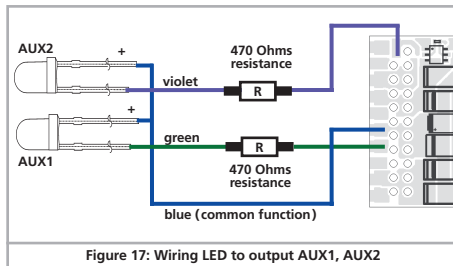

Figure 17: Wiring LED to output AUX1, AUX2
- a) The lamps / function outputs are insulated from the common pole (ground) (i.e.: the locomotive chassis); therefore they are potential free. Fig. 17 shows the correct wiring for the outputs AUX1 and AUX2. The functions of the locomotive must be potential-free, in other words there may not be any other connection to the function besides the wires from the decoder. The voltage at these outputs is about 1.5V lower than the track voltage. The blue wire is the „plus-pole“; the function output the „minus-pole“.
If LEDs are installed (also refer to Fig. 17), then a resistor must be wired in series with the LEDs. It should have a rating of between 470 Ohms and 2.2 kOhms. Running the LEDs without this resistor will lead to their destruction!
It is possible to use both options in the same locomotive as shown in Fig. 17.